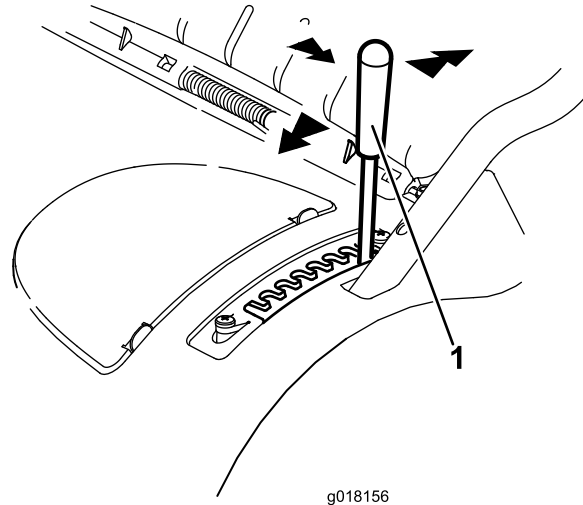

Figure 11
1. Grip the lever and pull sideways to disengage it from the locking notch (Figure 11).
2. Push it forwards to lower or pull it backwards to raise the height of cut (Figure 11).
3. Release the lever at the required position and ensure that it locks firmly into 1 of the 8 setting notches (Figure 11).